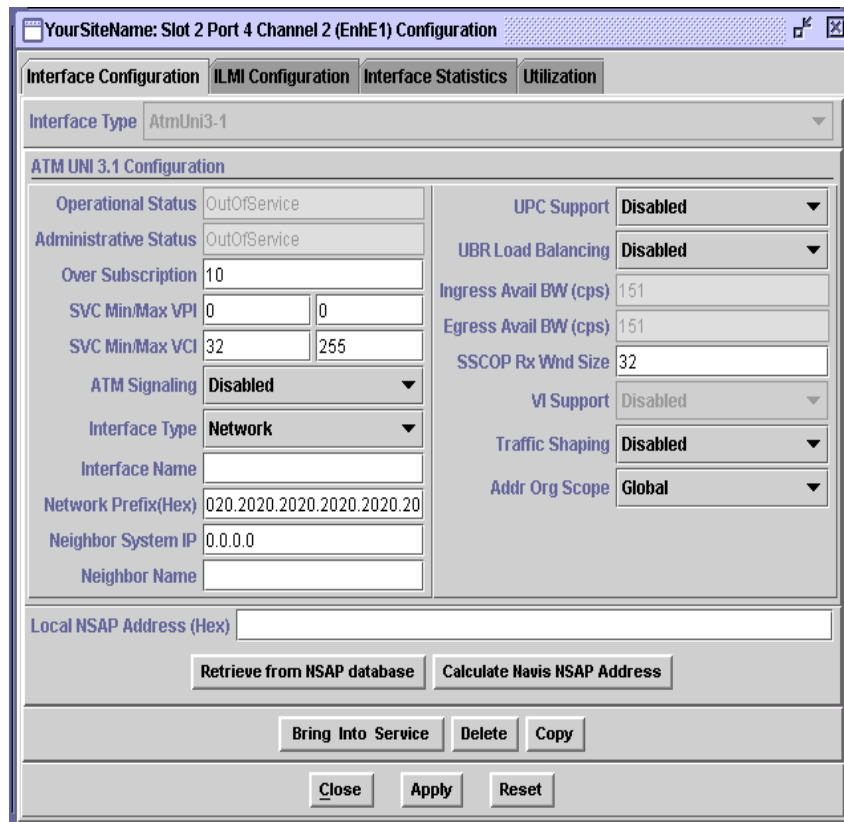
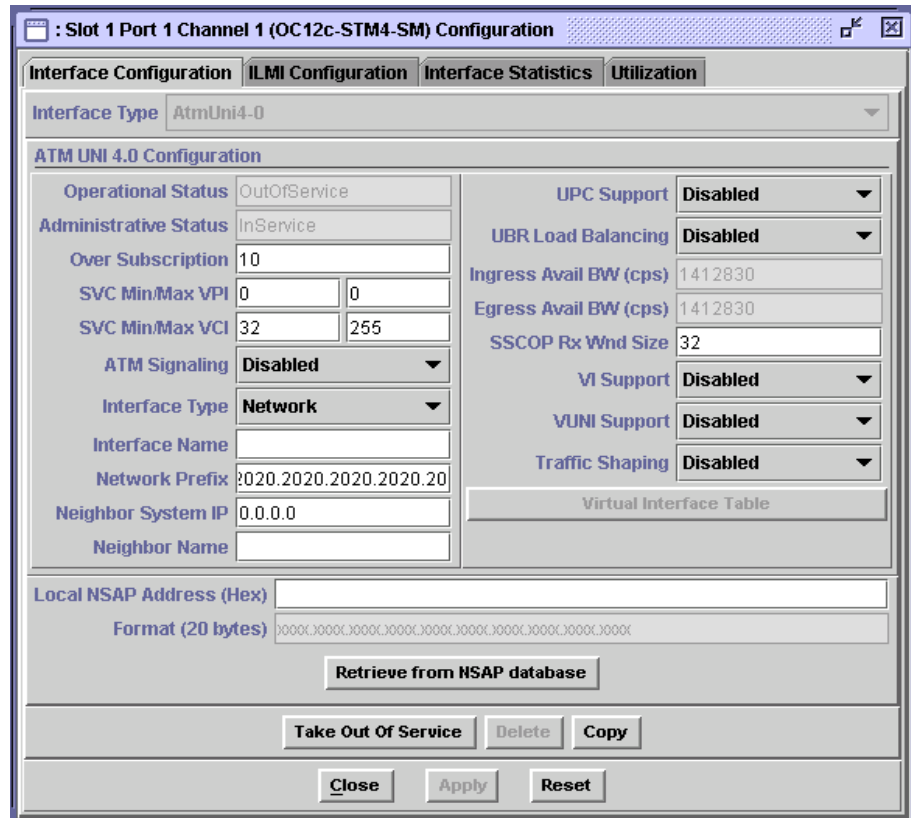

Figure 6-10. ATM UNI Interface Configuration Window (3.0 or 3.1)
Figure 6-11. ATM UNI Interface Configuration Window (4.0)
- ~ Click the right mouse button on the channel for which you want to configure the interface and a menu appears. Select Configure in the menu. The ATM UNI Interface Configuration window appears (see Figure 6-10 and Figure 6-11).